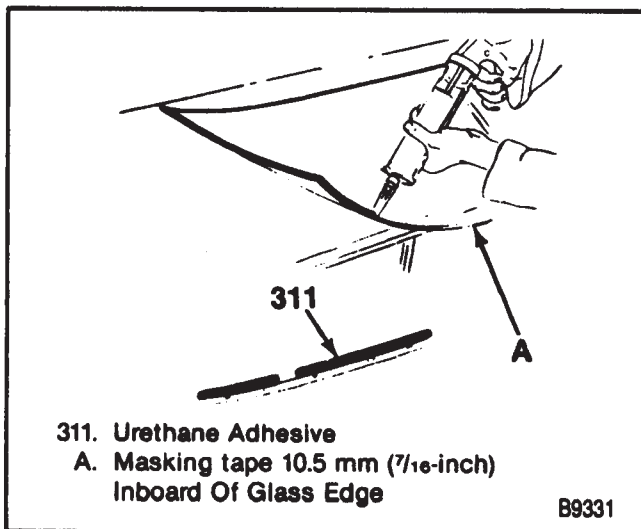

Figure 5—Adhesive Applications—Short Method
**Install or Connect (Figure 5)**
- Apply a smooth continuous bead of adhesive, tipping the bead towards the center of the window (figure 5).